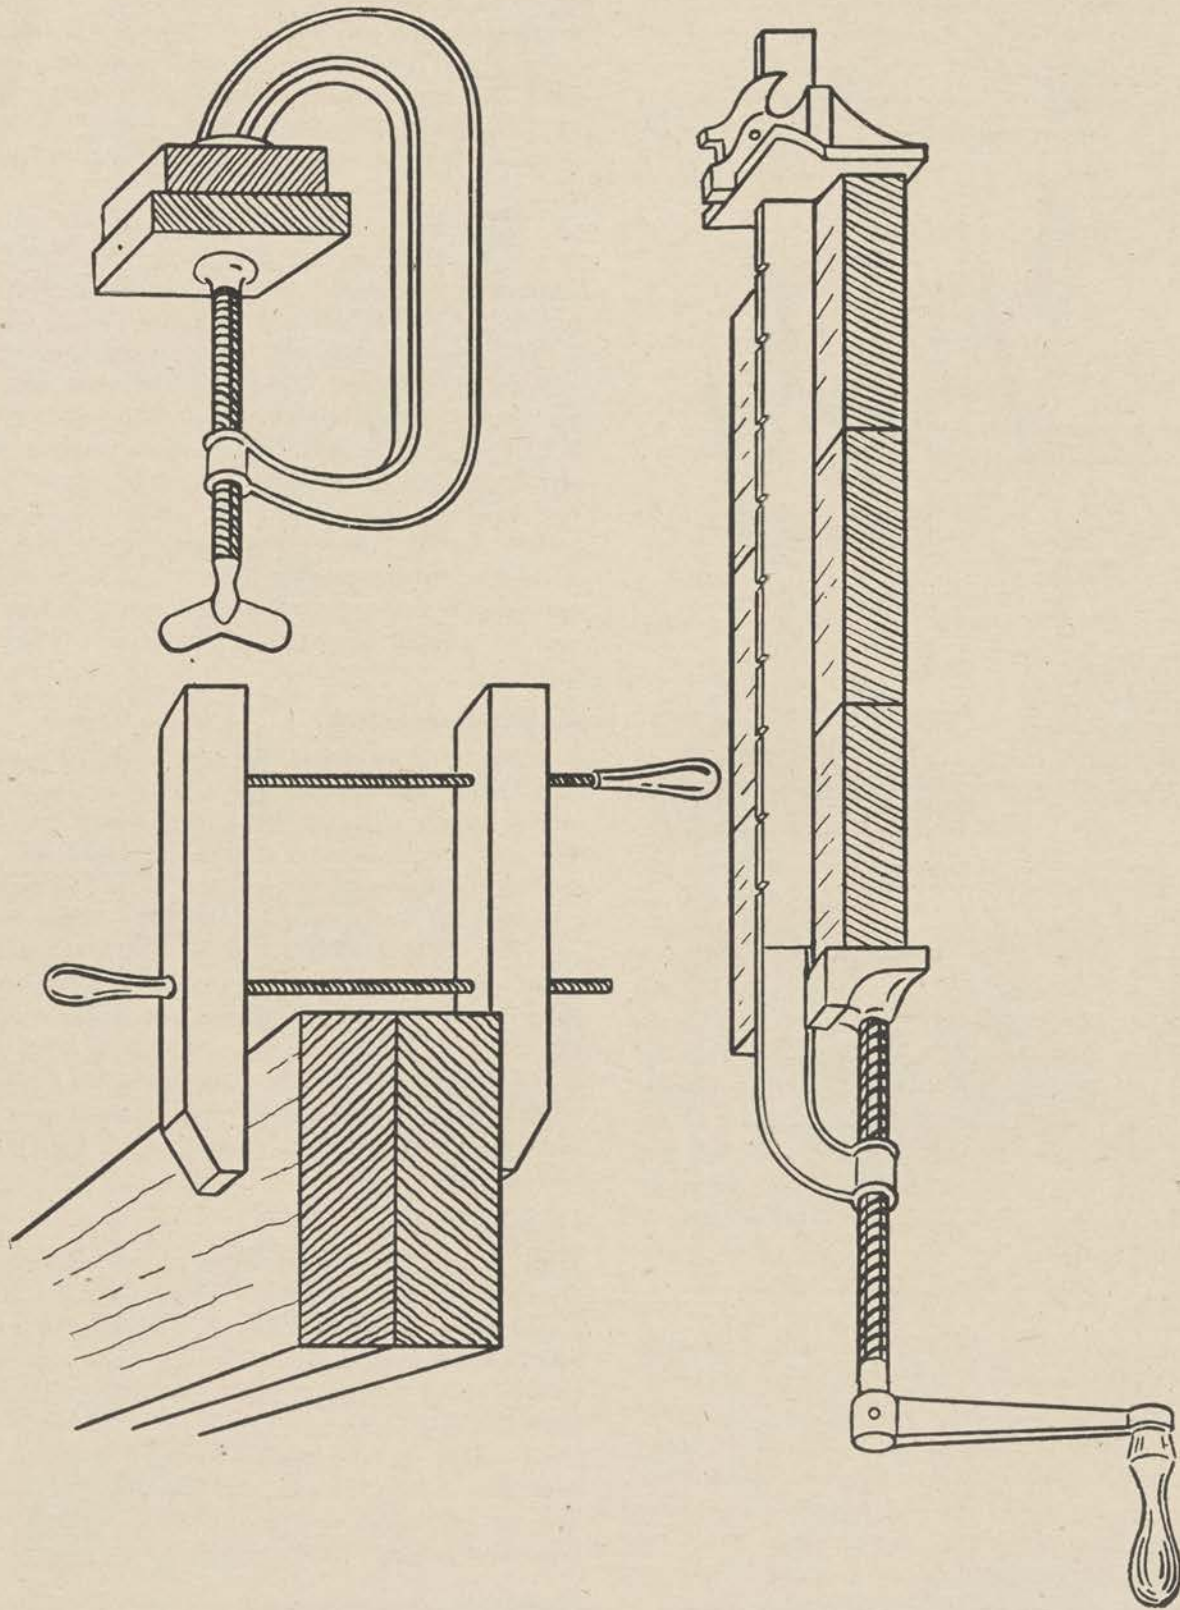
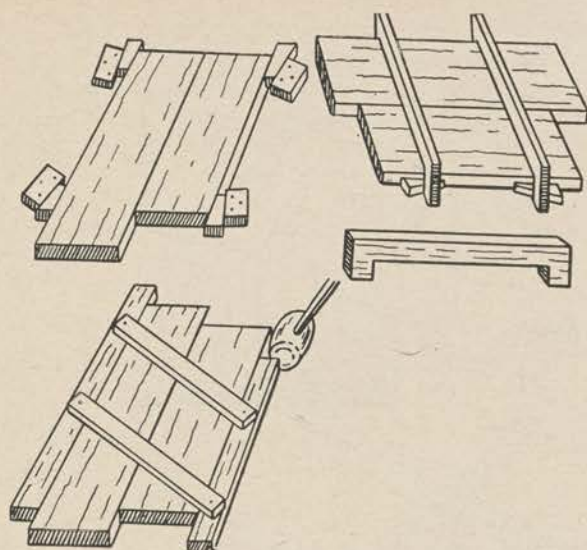

Figure 85. Clamps used to hold glued joints together.
Figure 86.
c. There are several kinds of good cold glues such as casein, resin, and fish glues. These are all satisfactory and should be mixed according to the manufacturer's instructions. All glued joints must be held together firmly with clamps or other devices until the glue has set. Some of the most useful types which can be purchased are illustrated (fig. 85). It is also possible to hold work in place by various systems of wedges and stops (fig. 86). The stops are nailed to any flat surface, the glued work is set in place between them and the wedges driven in until the joint is tight. Certain types of work may be held together by ropes which are tightened by twisting them in the manner of a tourniquet.